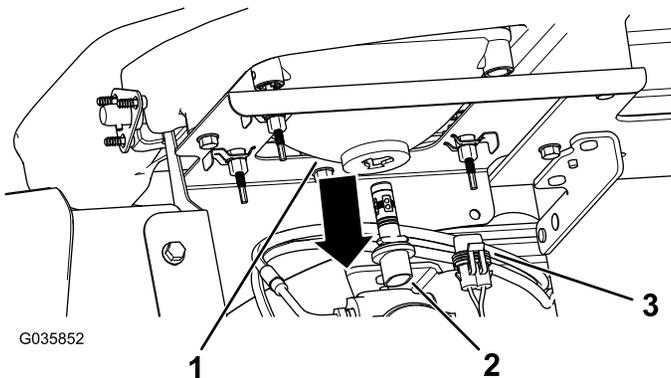

Figure 52
3. Disconnect the electrical connector for the harness from the connector of the lamp assembly at the back of the headlight housing (Figure 52).
4. Rotate the lamp assembly 1/4 turn counterclockwise and moving it rearward, out of the headlight housing (Figure 52).
with the slots in the headlight housing (Figure 52).
6. Secure lamp assembly by turning it 1/4 turn clockwise (Figure 52).
7. Connect the electrical connector for the harness to the connector of the new lamp assembly (Figure 52).